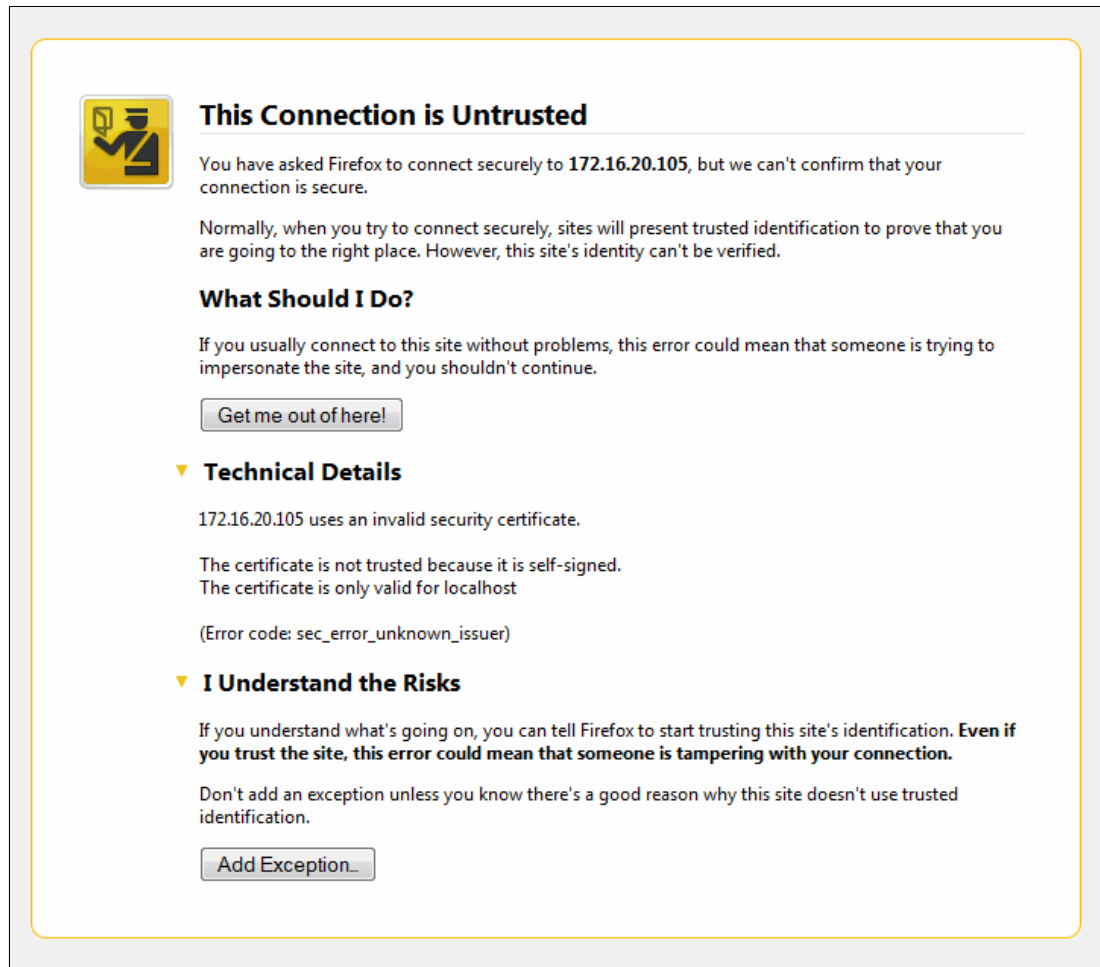

Figure 5-1 HMC certificate
3. The first time you connect to the HMC, you are prompted for certificate acceptance (Figure 5-1). Click **Add Exception** to accept the certificate.